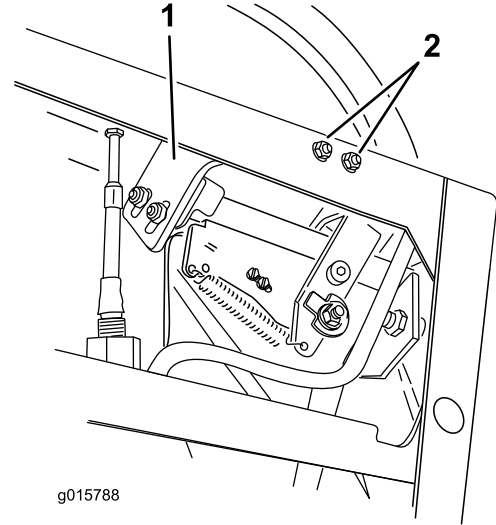

Figure 6
9. Remove the right hand bracket with the proximity switch attached to it (Figure 6).